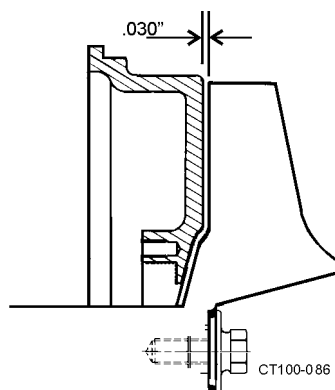
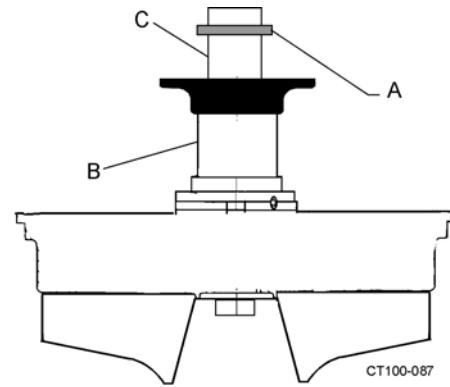

Figure 34 - Clearance Between Impeller and Backplate
Figure 35 - Locations of Shims
14. Check the space between the back of the impeller and the backplate with a feeler gauge (.030 nominal) while holding the backplate tight against the bearing housing flange. (Any axial movement of the shaft should not be added to the .030 nominal clearance). (Figure 34). If needed, change this clearance by adding or removing shims. Shims (Figure 35, item A) are added on the drive shaft (Figure 35, item C) behind the impeller shaft (Figure 35, item B).